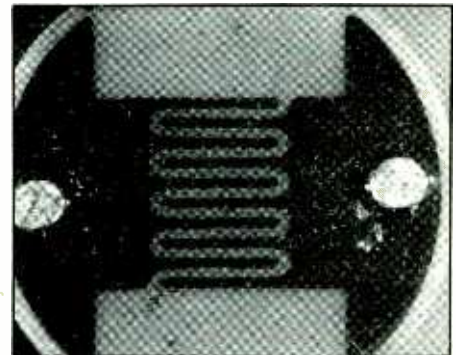

Fig. 4. Light-sensitive regions of CdSe (A) and CdS (B) photoresistors.
Shown in Fig. 4 are the active regions of two photoresistors with interleaved electrodes. In both cases, the light-sensitive material is the dark zig-zag pattern. The device shown in (A) is interesting because it makes maximum use of available space to expose more of the light-sensitive material. Less of the light-sensitive material in (B) is exposed because the spacing between the electrodes is slightly wider. This often indicates a higher maximum operating voltage for the particular device.